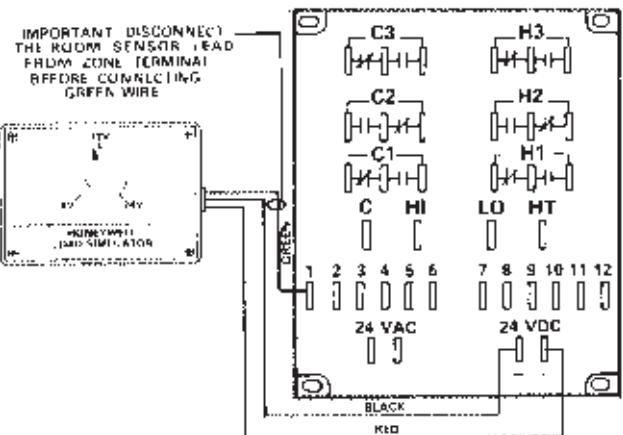

FIGURE 32
- 3 - Connect load simulator as shown in Figure 32. Null simulator by aligning thumbwheel mark with null indicator.